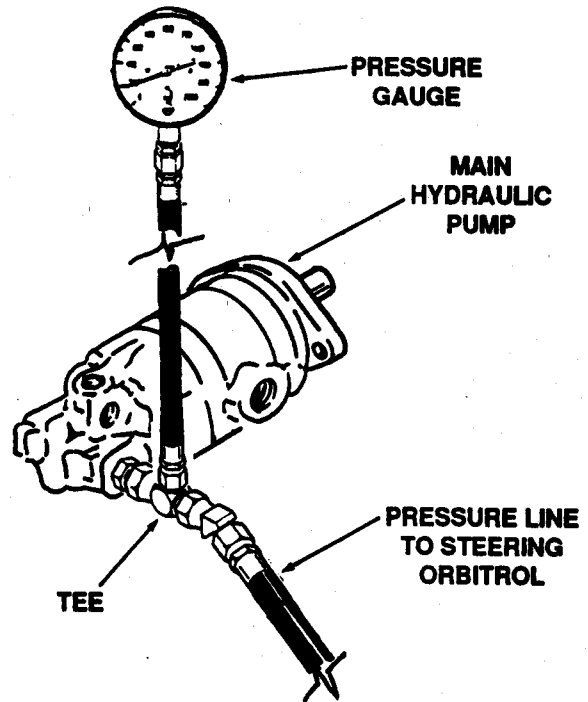

Figure 5. Arrangement to Check the Pressure in the Steering System.
1. Remove cap from tee and connect a 0-3000 psi pressure gauge on the tee as shown in Figure 5.